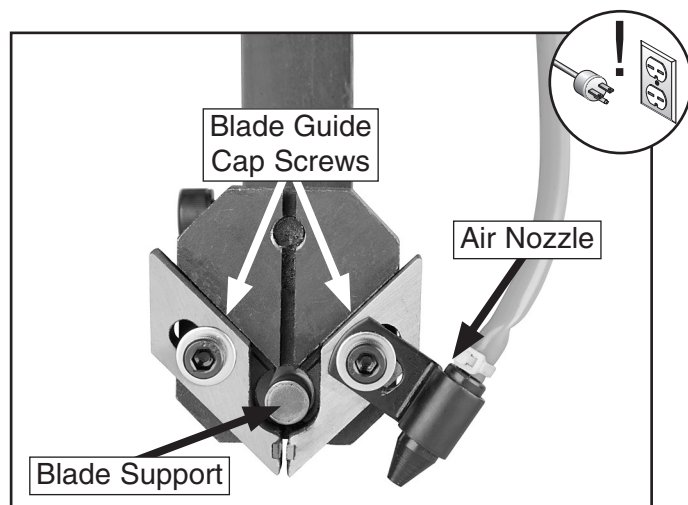

Figure 29. Blade guide assembly (upper assembly shown without blade for clarity).
- Slide the blade support (see **Figure 29**) up to, but not touching, the back of the blade, then re-tighten the blade support cap screw.
- Use a 4mm hex wrench to loosen the blade guide cap screws (see **Figure 29**).